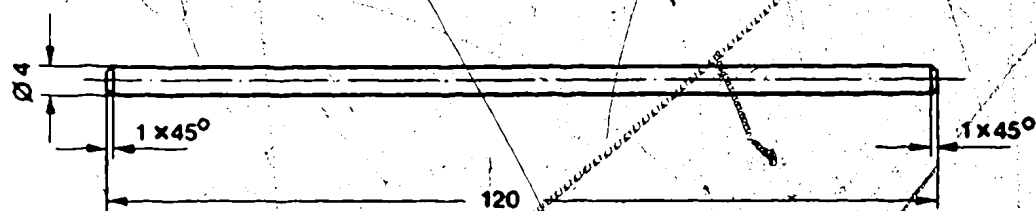

Fig. 18
Mount the governor on the fuel injection pump – to do this, center the sliding sleeve (72) by inserting a home-made guide pin (see Section 6, Fig. 18) through the hole in the spring retainer (30) to the camshaft.